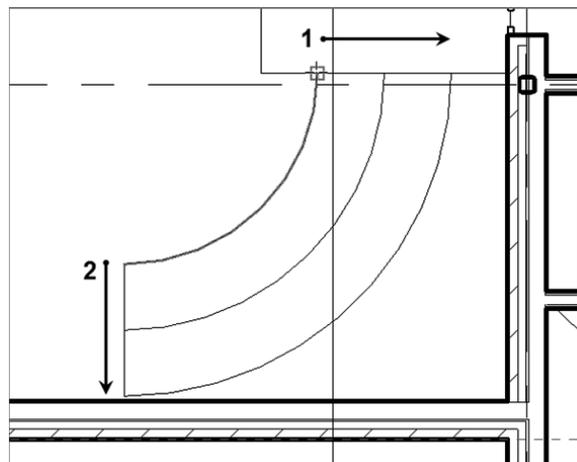

FIGURE 10.38: Adding a straight line at each end of the arcs
13. Click the Line tool, make sure Offset is set to 0, and then draw a straight line at each end of the arcs, as shown in Figure 10.38.